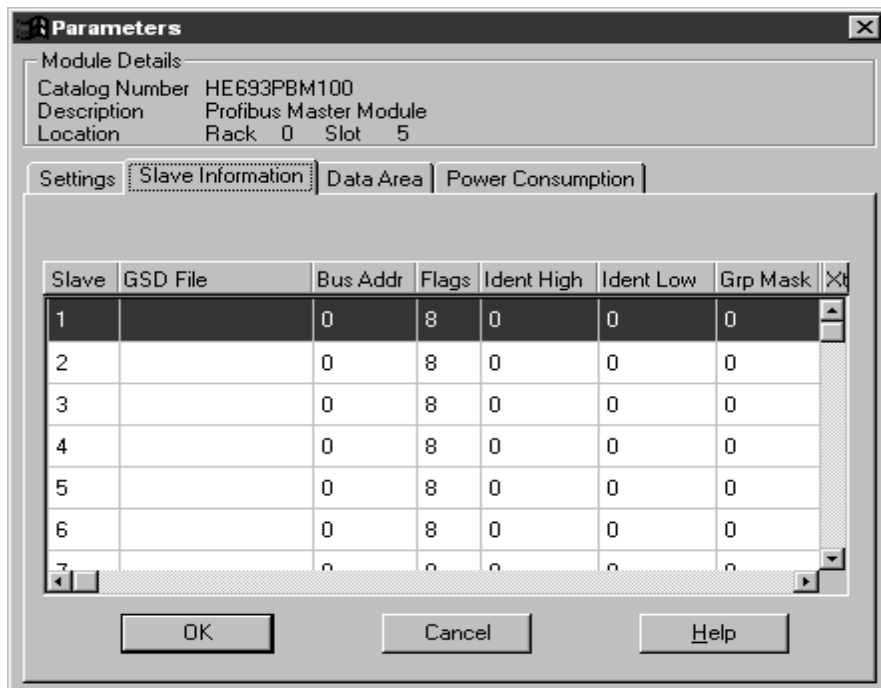

FIGURE 3.4
Step 8: After the above parameters are set, click on the “Slave Information” tab. The following Screen should appear (**Figure 3.4**). (**See Appendix A if “Pseudo Slave” functions are desired.**)
2. In the desired line (Slave 1 - 64) click on the “GSD File” field, type a space character followed by the “ENTER”, this will bring up a file selection dialog. (See Chapter 3, Figure 3.4.)